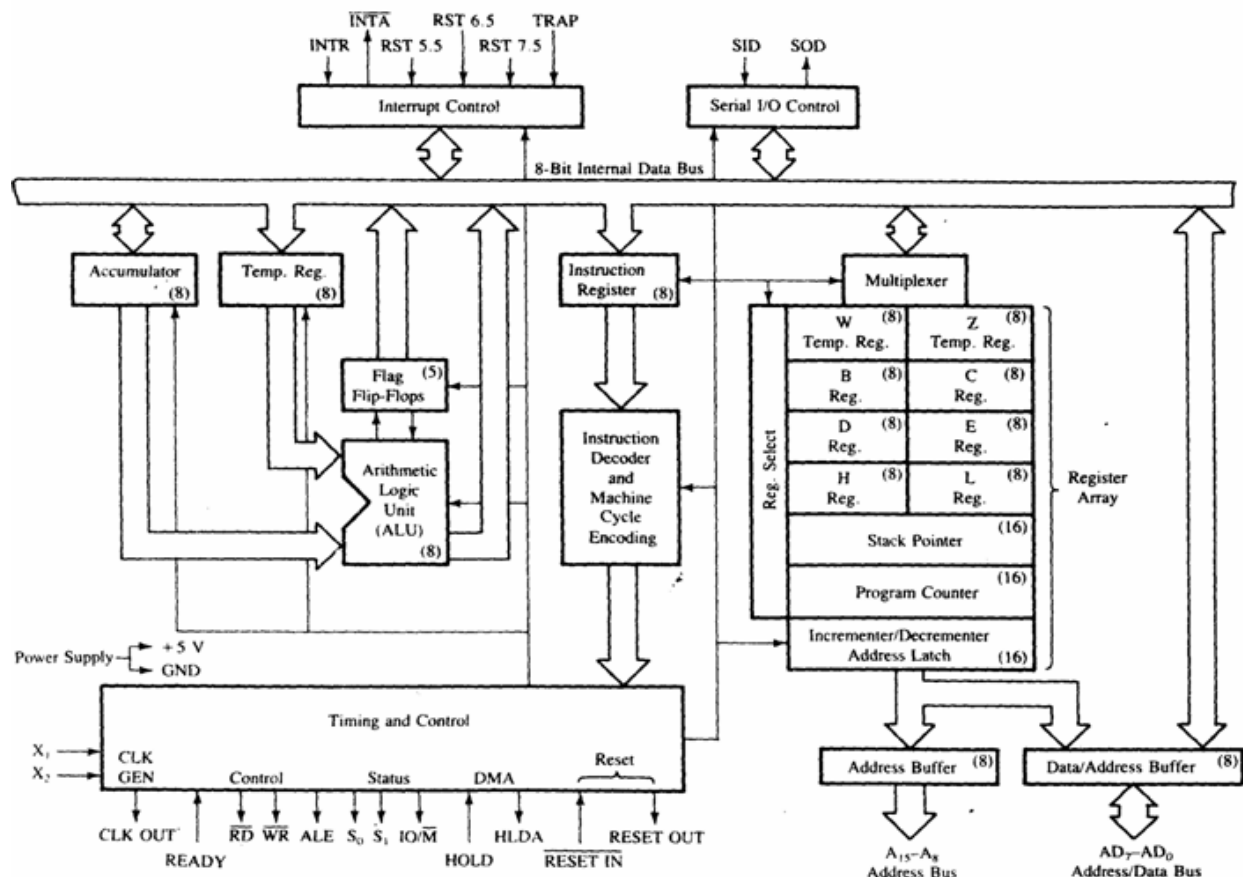

Fig 2.1: Internal Architecture of 8085
The 8085/8080A-programming model includes six registers, one accumulator, and one flag register, as shown in Fig. 2.1 In addition, it has two 16-bit registers: the stack pointer and the program counter. They are described briefly as follows.
The ALU includes five flip-flops, which are set or reset after an operation according to data conditions of the result in the accumulator and other registers. They are called Zero(Z), Carry (CY), Sign (S), Parity (P), and Auxiliary Carry (AC) flags. The most commonly used flags are Zero, Carry, and Sign. The microprocessor uses these flags to test data conditions. For example, after an addition of two numbers, if the sum in the accumulator is larger than eight bits, the flip-flop used to indicate a carry — called the Carry flag (CY) — is set to one. When an arithmetic operation results in zero, the flip-flop called the Zero(Z) flag is set to one. The Fig. 2.1 shows an 8-bit register, called the flag register, adjacent to the accumulator. However, it is not used as a register; five bit positions out of eight are used to store the outputs of the five flip-flops. The flags are stored in the 8-bit register so that the programmer can examine these flags (data conditions) by accessing the register through an instruction.